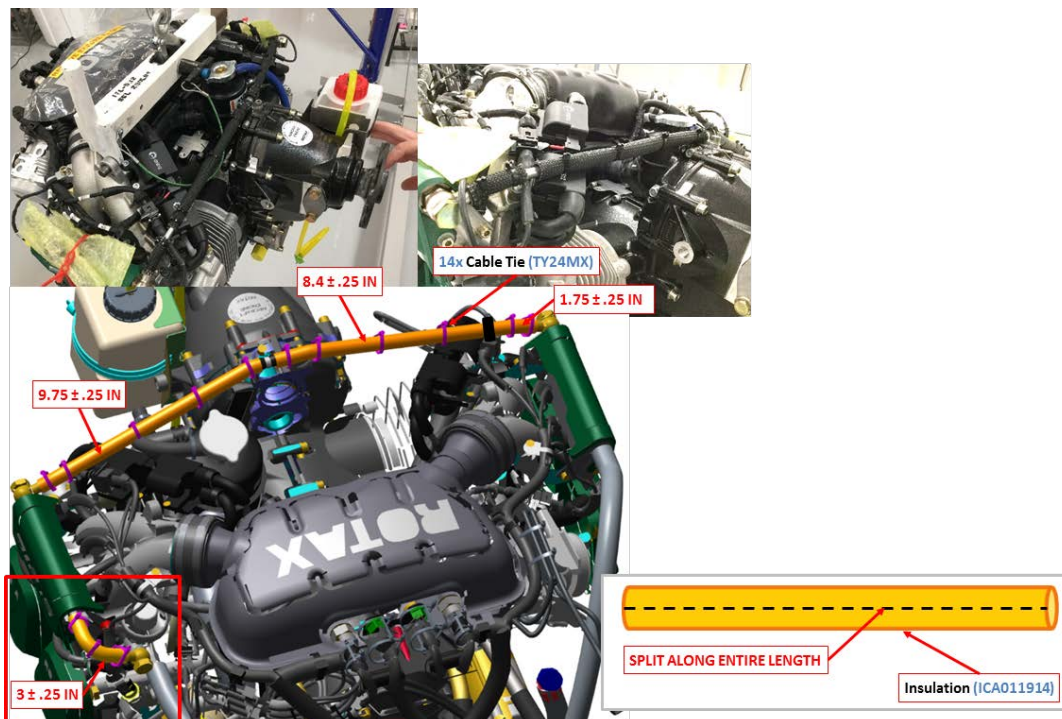

Figure 1: Fuel rail line insulation installation.
1. Fuel rail line Insulation, Figure 1:
- b. Cut each piece of insulation axially to split the insulation tube lengthwise. Figure 1.